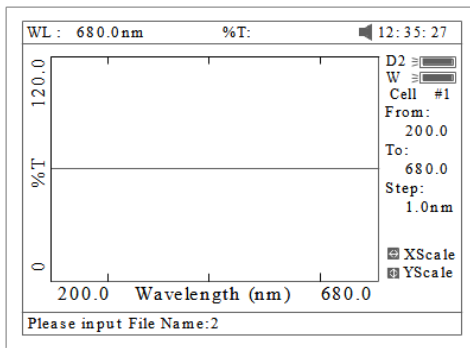

Fig 15
- Name the curve by pressing the numeric keypad (Fig 15), press the key **【ENTER】** to confirm.